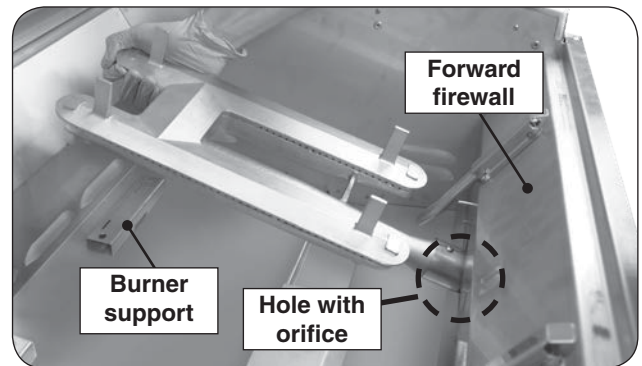

Fig. 36-3 Remove burners
3. Carefully lift the burner from the burner support and out from the hole in the forward fire wall. See Fig. 36-3.